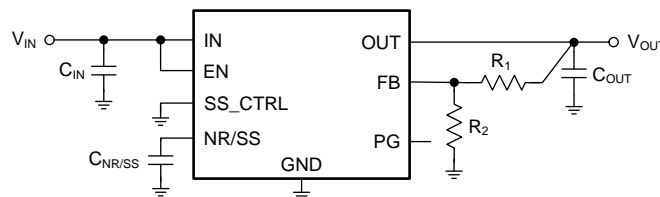

図 38. Adjustable Operation
The output voltage of the TPS7A9201 can be adjusted from 0.8 V to 5.2 V by using a resistor divider network as shown in 図 38.
(1) R_1 is connected from OUT to FB; R_2 is connected from FB to GND; see 图 38.